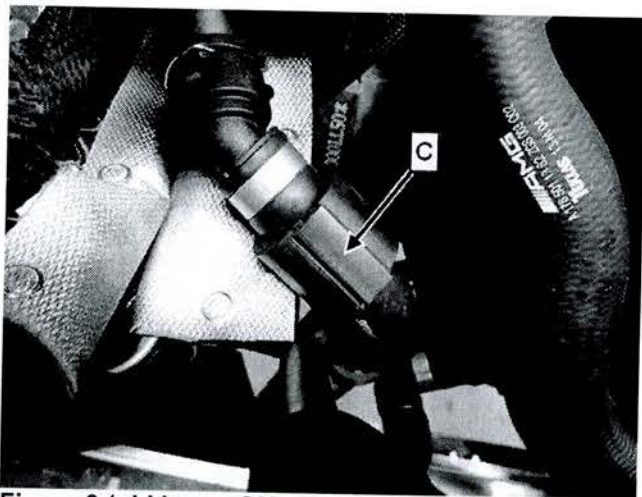

Figure 3 (old hose: OK - with spacer ring installed)
6.  Install spacer ring (C, Figure 3) then reassemble in reverse order.